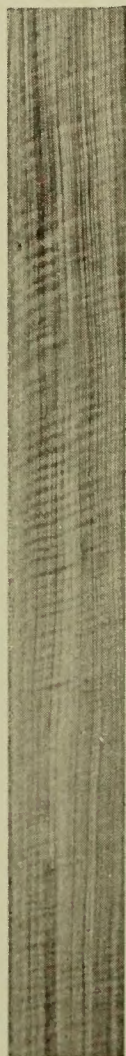

Fig. 4b
- (i) Quarters—figured (Fig. 4b).